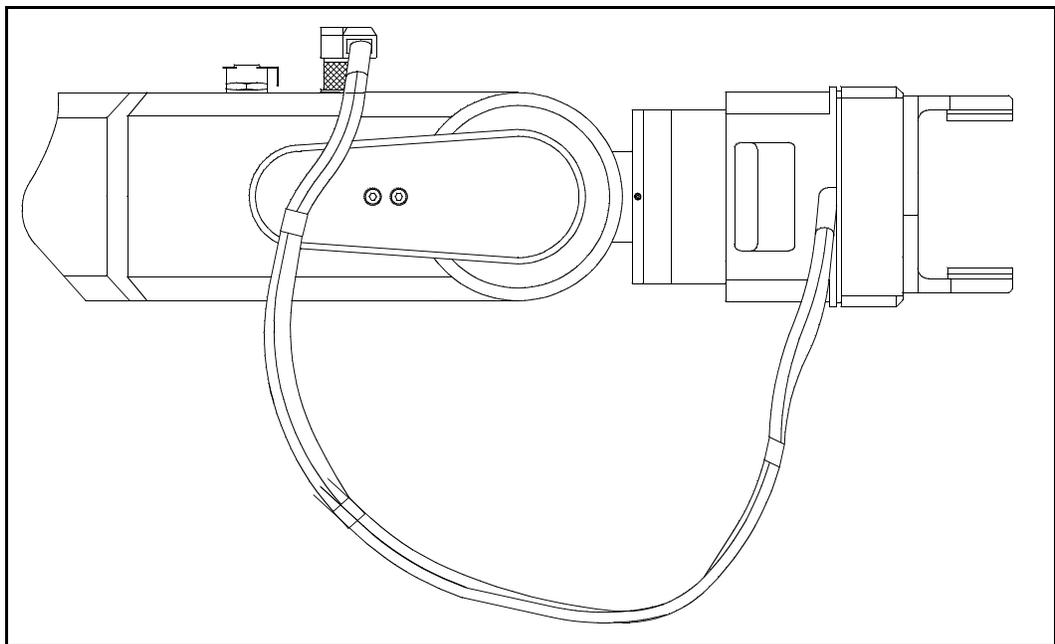

Figure 4-6: Connecting DC Servo Gripper - side view
5. Make sure the gripper cable is positioned as shown in Figure 4-6.